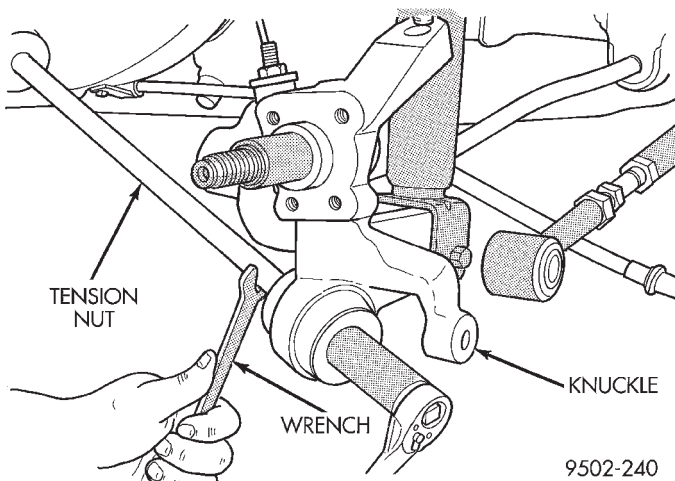

Fig. 15 Trailing Link Attachment To Rear Knuckle
(11) Remove the nut and washer attaching the trailing link to the rear knuckle. Use a wrench on the flat of the trailing link to keep it from turning when removing nut (Fig. 15).